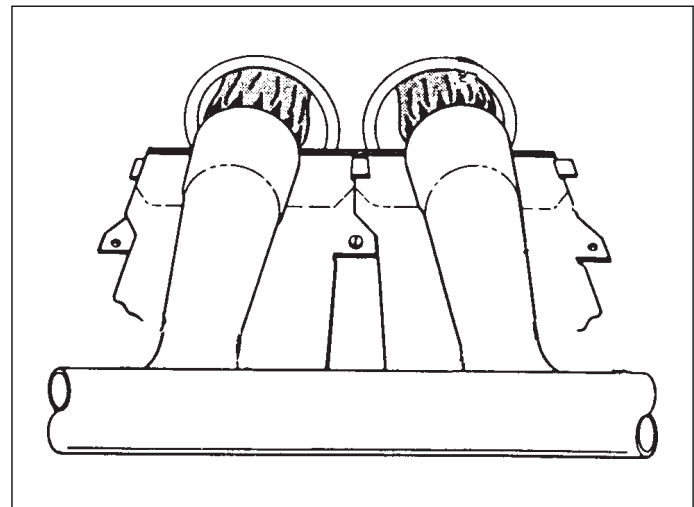

Figure 4 Burner inspection
8. After the flame ignites, visually inspect the burner assembly to ensure that the flame is drawn directly into the center of the heat exchanger tube, as shown in Figure 4. The end of the flame will be out of sight around the bend of the heat exchanger tube. In a properly adjusted burner assembly, the flame color should be blue with some light yellow streaks near the outer portions of the flame.